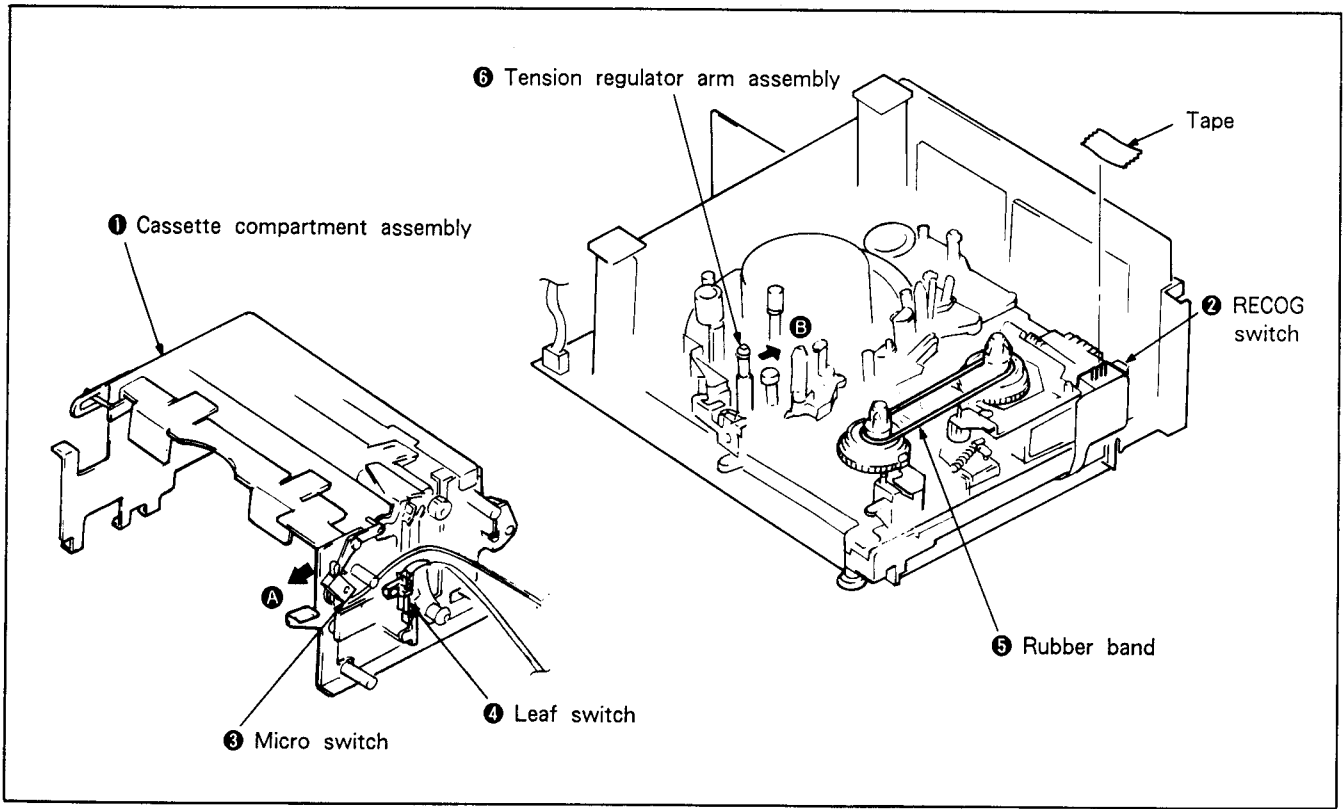

Fig. 7-1.
- 2) Remove the cassette compartment assembly ① according to Section 2. DISASSEMBLY 2-19.
- 4) Apply tape to the RECOG switch ② to keep the pin pressed down.
- 5) Push microswitch ③ once in the direction of arrow A and release. (See Fig. 7-1.)
- 6) Turn on the leaf switch ④. (See Fig. 7-1.)